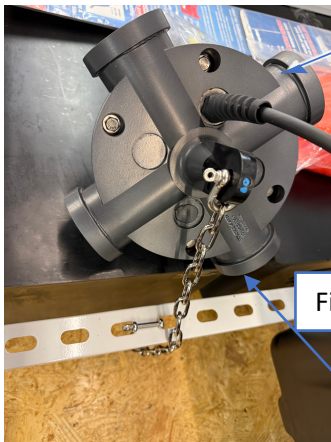

Figure 4.4b
5. Attach Pulsar Head Chain to Pulsar Head using Stainless Steel Screw Pin Shackle. (Fig. 4.4b)
6. Assure Shackle is securely fastened to middle support beams between rafts. (Fig. 4.4b)